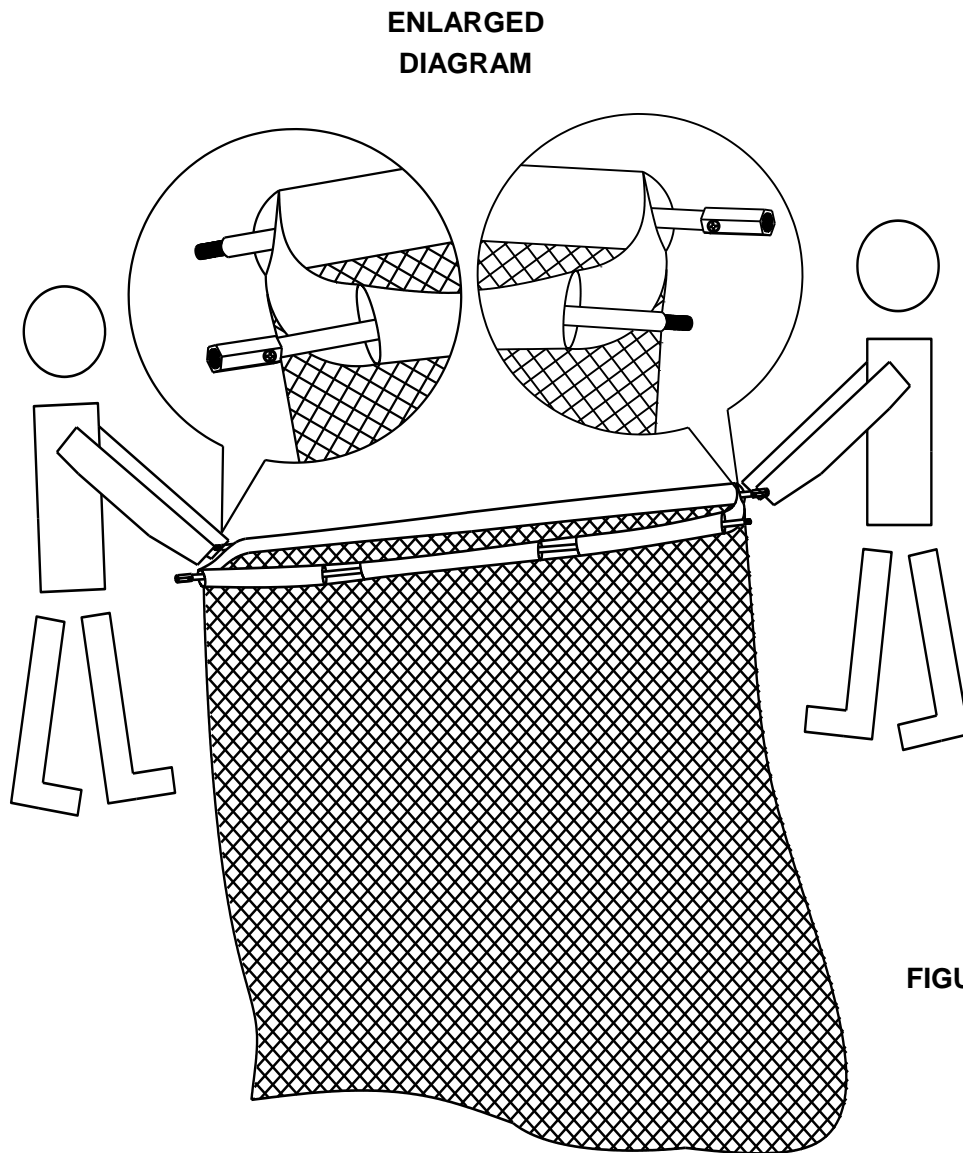

FIGURE 21
- E** Insert the two groups of Cable Wires into the sleeves as shown in FIGURE 21. By doing so, all the top sleeves will be divided into two groups with each one having a group of Cable Wires in it.